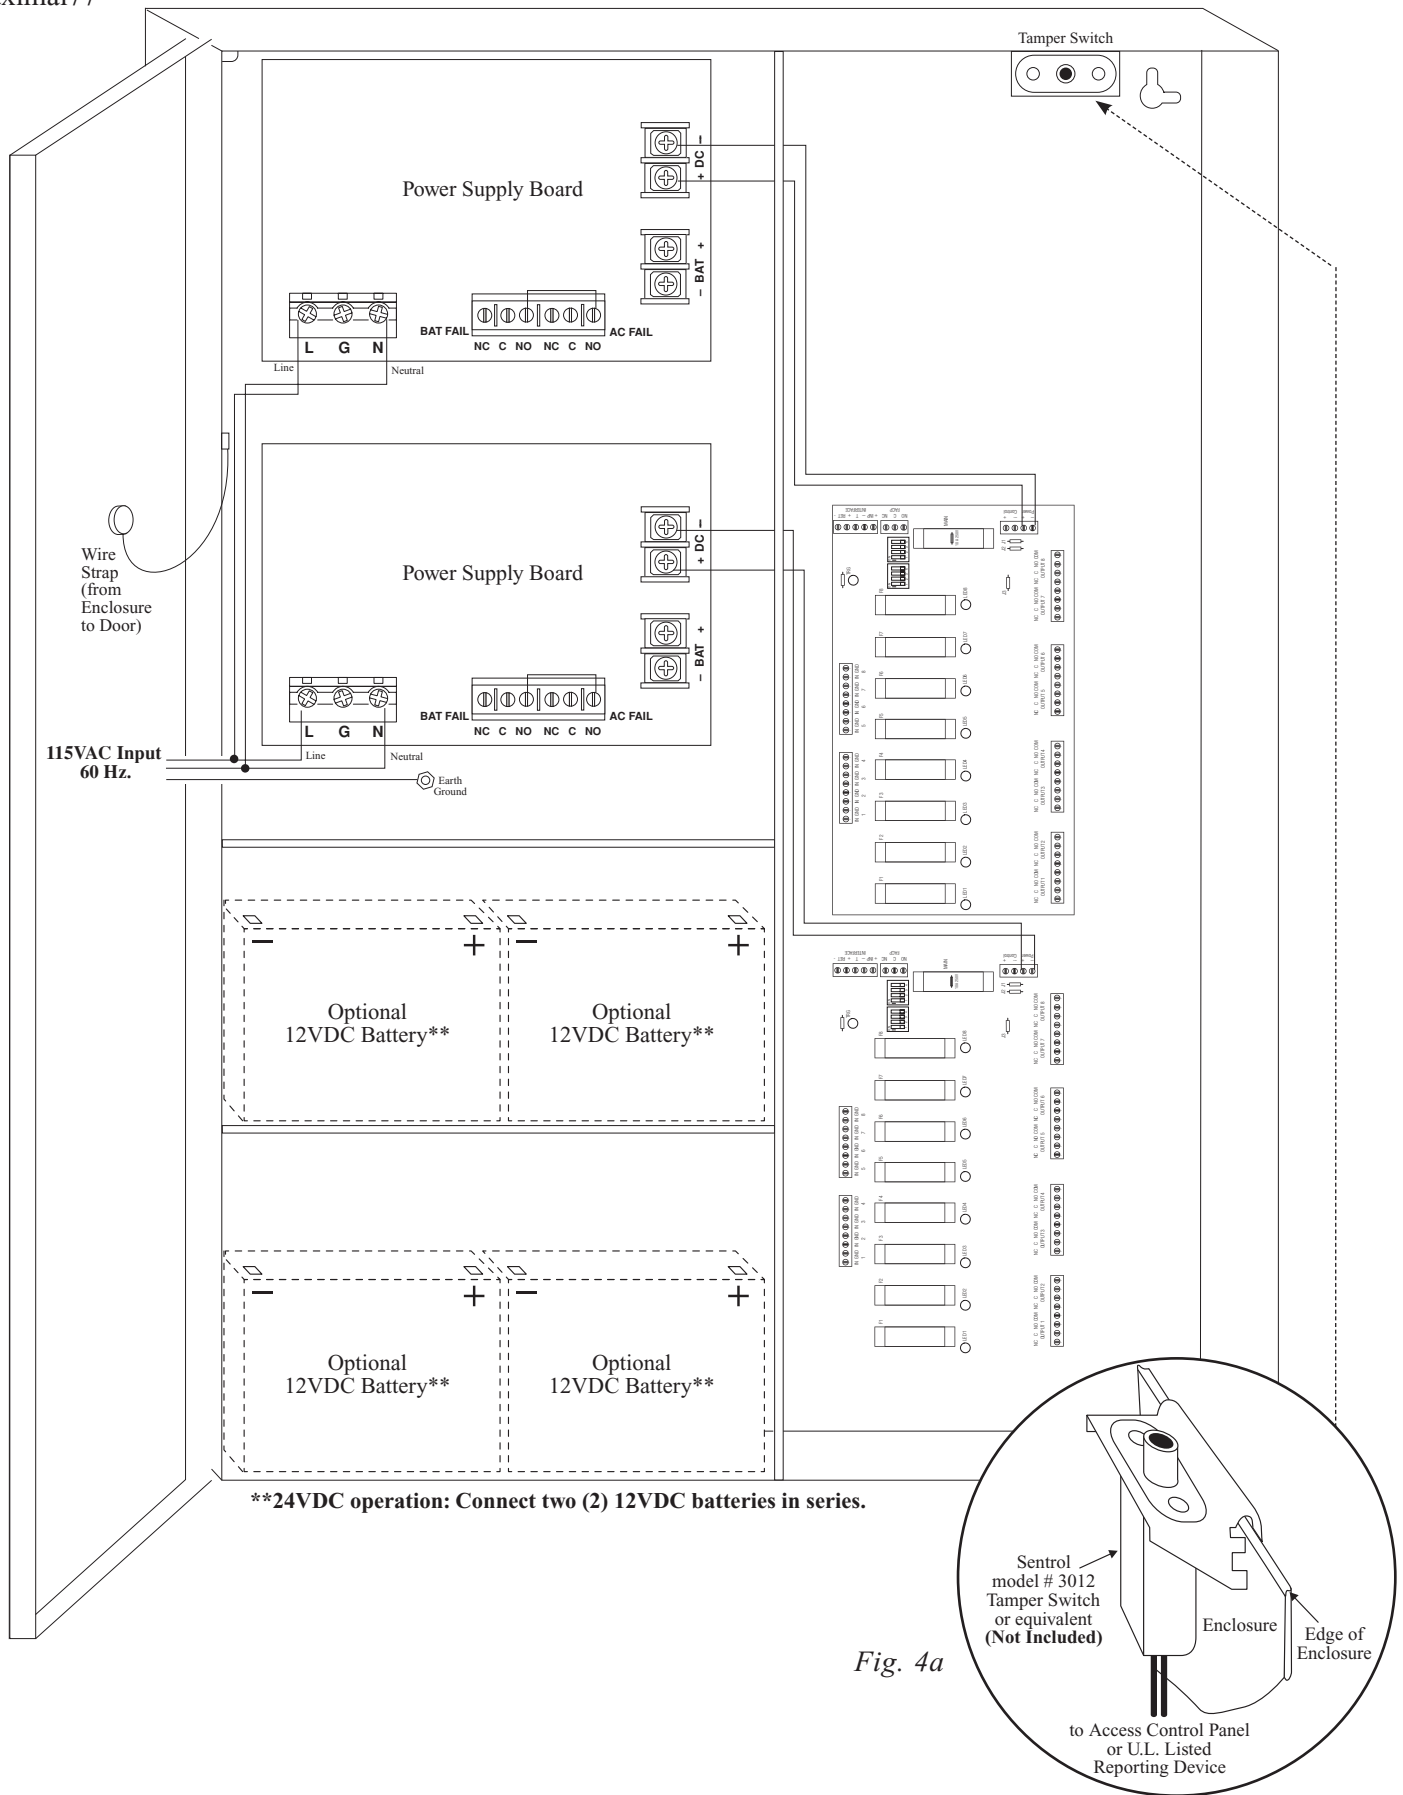

Fig. 5
+ BAT -	Stand-by battery connections. Connect one (1) 12VDC battery to the terminals marked [+ BAT -] for 12VDC operation (Fig. 3, pg. 10, Fig. 5, pg. 12). Use two (2) 12VDC batteries wired in series for 24VDC operation (Figs. 3-5, pgs. 10-12).